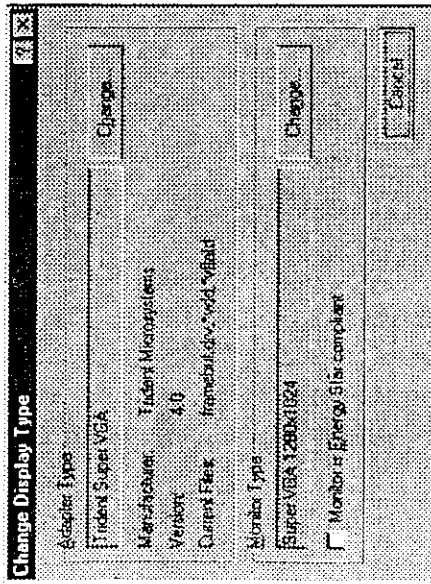

Figure 3-3.
4. SELECT either the "Change Display Type" or the "Advanced Properties" selection bar, and then SELECT the "Change" button next to Adapter Type (refer to Figure 3-3).